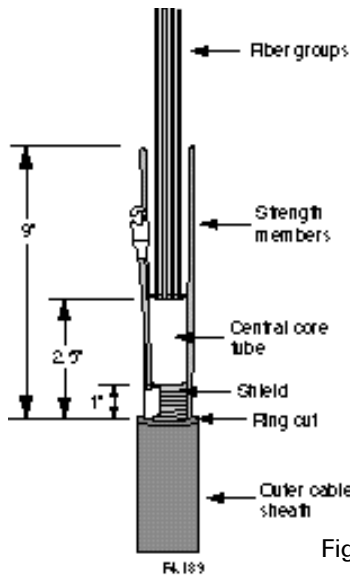

Fig. 6
2. If dual strength members (e.g., LXE) or multiple metallic strength members (eg., crossply) are present: expose each strength member and cut it off 9" from the ring cut. (Figure 6)
4. If metal shield is present: Remove all but 1" of the metal shield. (Figure 6) Pry open a 1" tab in the exposed metal shield where the shield overlaps. Crimp the bond clamp onto the edge of the shield.
6. Cut the central core tube 2-1/2" from the ring cut (1-1/2" beyond the metal shield if present) and remove the excess tube. (Fig. 6)